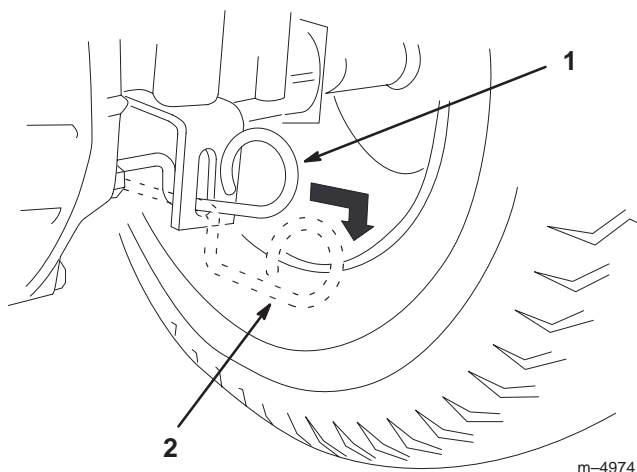

Figure 3
2. Place the drive control in the Push position (Fig. 3).
4. Place the drive control in the Operate position (Fig. 3). Drive the tractor forward then reverse approximately 5 feet. Repeat 3 times.